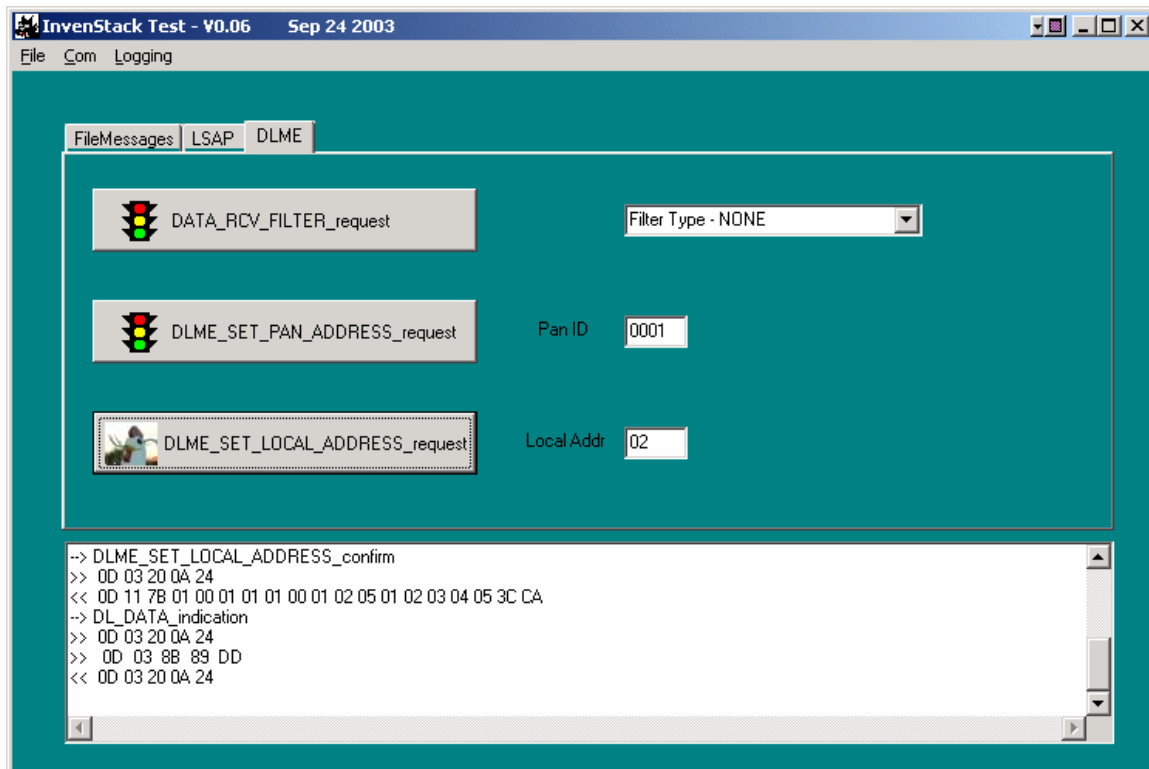

fig. 4 InvenStack Test application – Radio 0001, 02 just received message
5. Sending the file DL_DATA_REQUEST_ACK_1.TXT above should result in a DL_DATA_confirm showing 0xF0 DL_SUCCESS on the sending radio and an Indication on the receiving radio (see fig. 4 below). Since AckMode is set to ACK_MONITORING (0x01) in the message, this confirms that the RF ACK was successful. The message windows on the test apps used should look like the screenshots below.